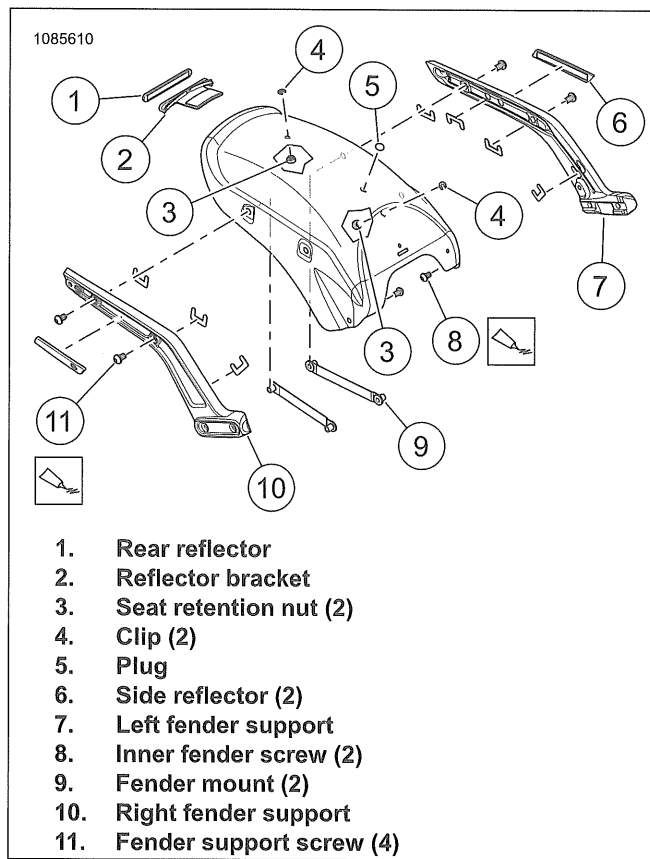
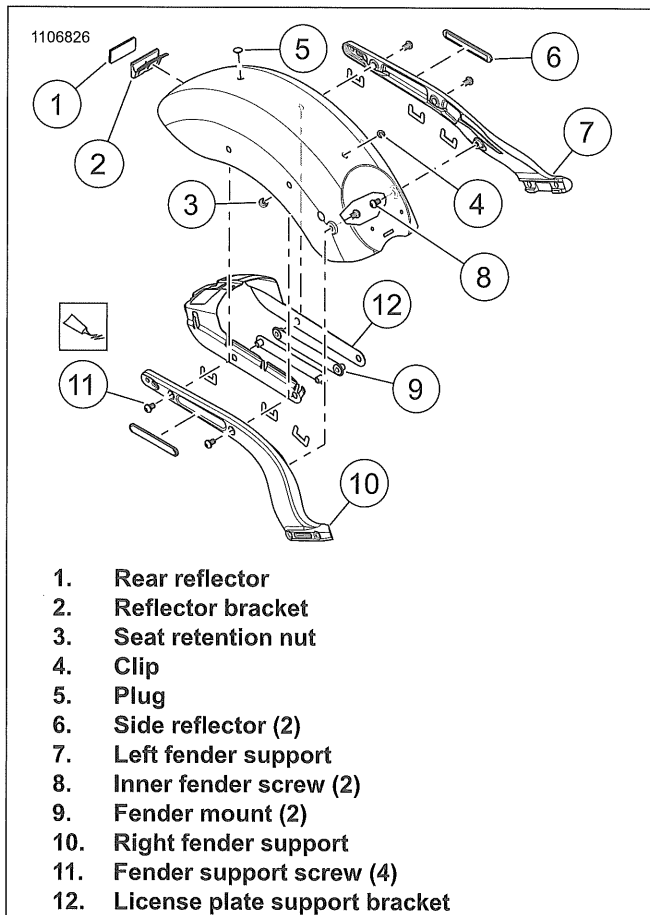
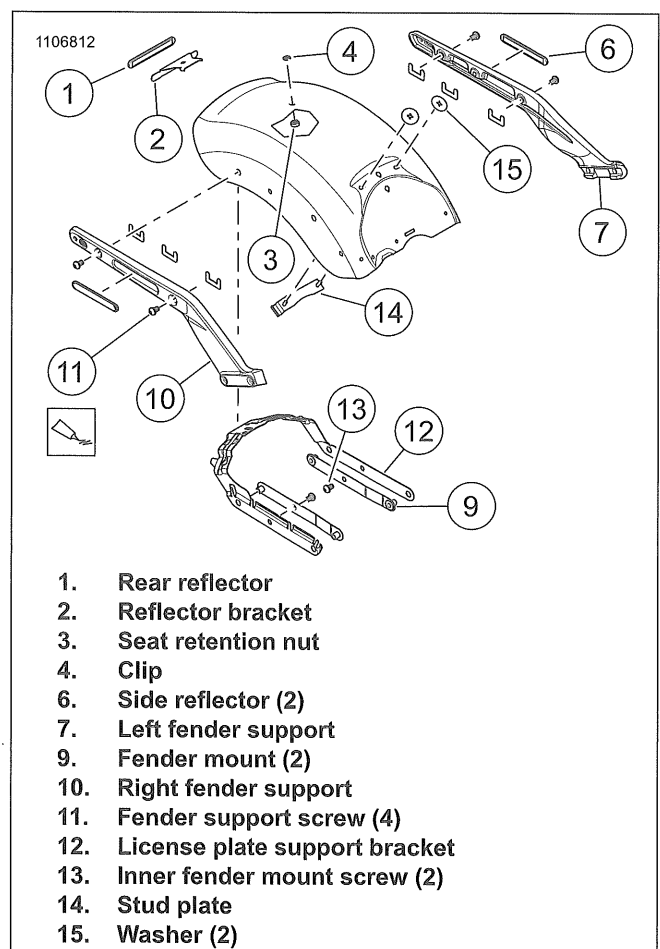

Figure 3-119. Chopped Fender: W/O License Plate Bracket
Figure 3-120. Chopped Fender: With Licence Plate Bracket, W/O Inner Fender Mounting Screws
Figure 3-121. Chopped Fender: With license Plate Bracket and Inner Fender Mount Screws
3. See Figure 3-119, Figure 3-120 or Figure 3-121. Remove rear fender support.
- a. **Models equipped with inner fender mount screws:** Remove screws (13).
- b. Remove screws (11).
- c. Remove fender mounts (9).
- e. Remove license plate support bracket (12), if equipped.
5. Remove reflector bracket (2) and reflectors (1, 6).
- a. Hold nut (3).
- b. Remove clip (4).
7. See Figure 3-121. Remove stud plate, if equipped.
- a. Remove washers (15).
- b. Remove stud plate (14).
1. See Figure 3-121. Install stud plate, if equipped.
- a. Position stud plate (14) on fender.
- b. Install washers (15).
2. See Figure 3-119, Figure 3-120 or Figure 3-121. Install seat retention nut.
- a. Position nut (3).
- b. Install clip (4).
3. Install reflector bracket (2) and reflectors (1, 6).
5. See Figure 3-119. **Models without license plate support brackets:** Install rear fender supports.
- b. Place fender mounts (9) in holes on fender.
- c. Install screws (11). Tighten.
6. See Figure 3-120 or Figure 3-121. **Models with license plate support brackets:** Install rear fender supports.
- a. Align holes on bracket (12) with holes on fender and insert fender mounts (9).
- c. **Models equipped with license plate bracket and inner fender screws:** Apply threadlock and install screw (13) through license plate bracket. Tighten.